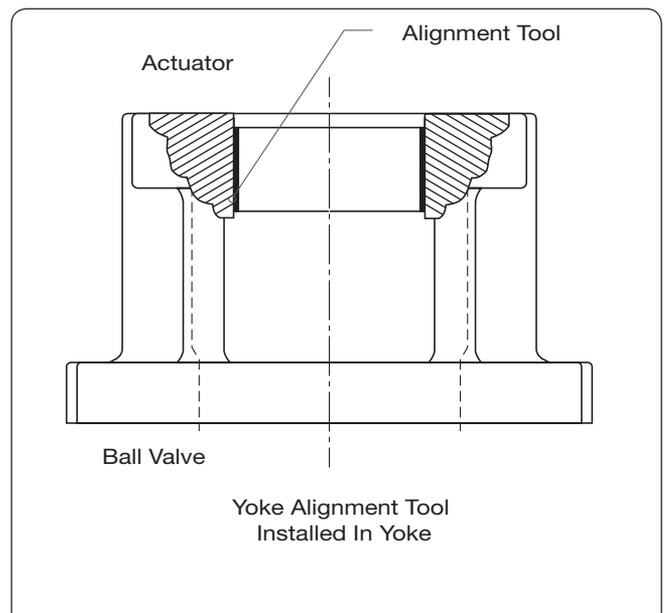

Figure 20: Yoke Alignment Tool Installed In Yoke
16. Align the bolt holes of the discharge collar with the discharge collar studs and place the discharge collar onto the body. Screw the discharge collar stud nuts onto the studs of the body. Using the sequence in Figure 20, torque to the values in Table 3.
2. Insert the yoke alignment tool (Figure 20) through the bottom of the yoke and into the bushing guide bore of the actuator yoke (Figure 20).
3. Insert the yoke alignment tool (Figure 20) through the bottom of the yoke into the bushing guide bore of the actuator yoke (Figure 20).